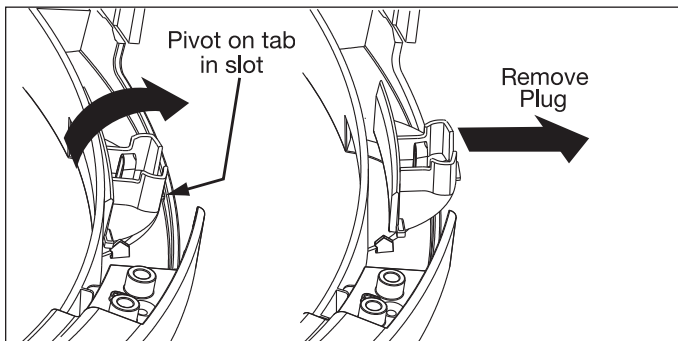

Figure 2-38.
3. Insert the harness connection through the front panel first, and then pivot the lock until it is flush. Slide the lock toward the center of the front panel until the screw holes line up. (See Figure 2-38)